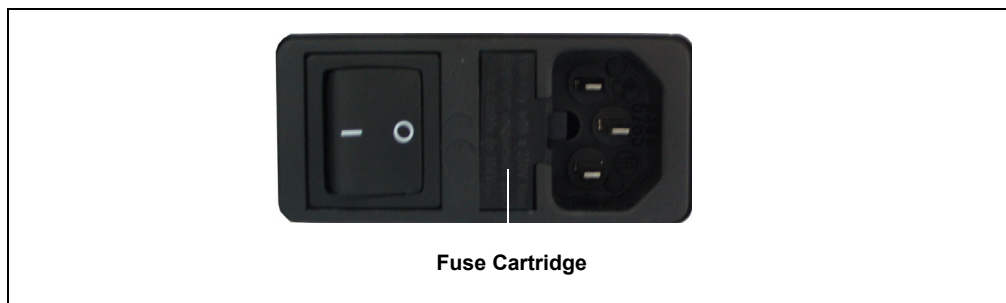

Figure 9-48. TC Fuse Cartridge
3. The fuse cartridge is located next to the main power switch (see Figure 9-48). Use a small screwdriver to remove the fuse cartridge.